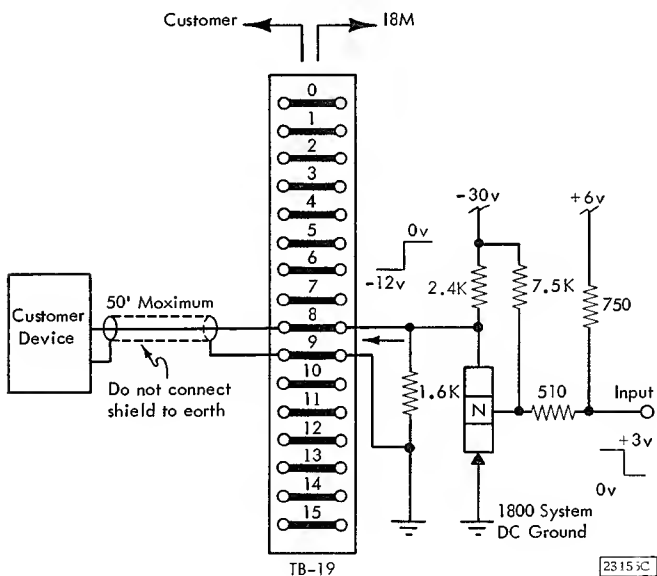

Figure 29. Digital and Analog Output "Ready" Signal, Terminal and Circuit Schematic (simplified)
4. Terminal and Circuit Description: Figure 29.
The specifications and terminations are identical to those listed under subheadings of Digital Outputs and Figures 29 and 30.